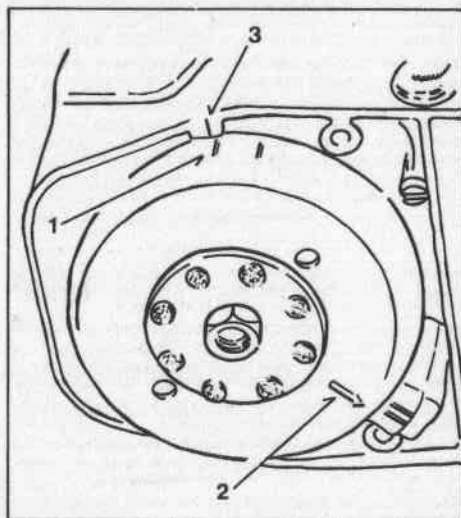

Fig. 5
- e) At this point make sure arrow 2 (Fig. 5) is between the two lines marked on the pick-up.
Once the operation is over, should arrow 2 (Fig. 5) not be between the two lines marked on the pick-up, start a new timing in the following way:
- d) Make notch 1 (Fig. 5) on the inductor coincide with notch 3 on the engine crankcase;
- e) Man kontrolliere, dass der Zeiger 2 (Abb. 5) zwischen den beiden Rillen des Widerstandsaufnehmers liegt.